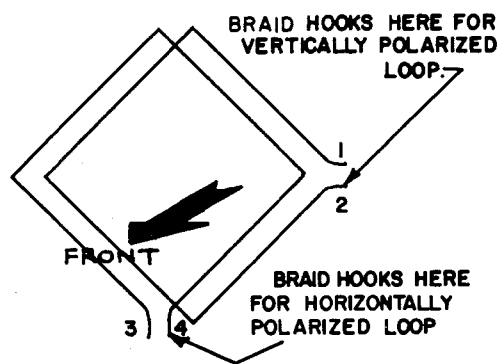

Figure 10
() Refer to Figure 10 to install the wires on the driven element spreaders. Connect them as shown in the electrical diagram. The marks on the wires should be centered on the driven element insulators (item 13).